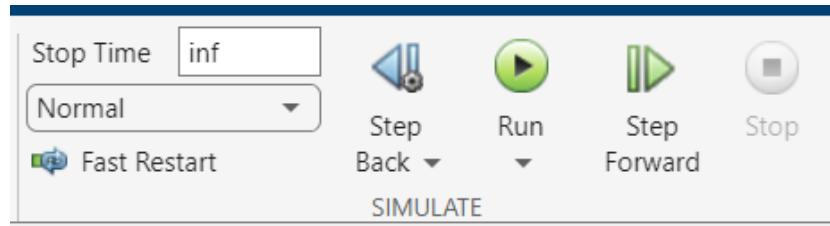

Figure 3. Simulation tab | Run button to start virtual Qube
- 8. Run the QUARC controller using the Run  button on the Simulation tab as shown in figure 3.
20. In the same section near the Run button as shown in figure 3, set the Stop time to 5 sec.